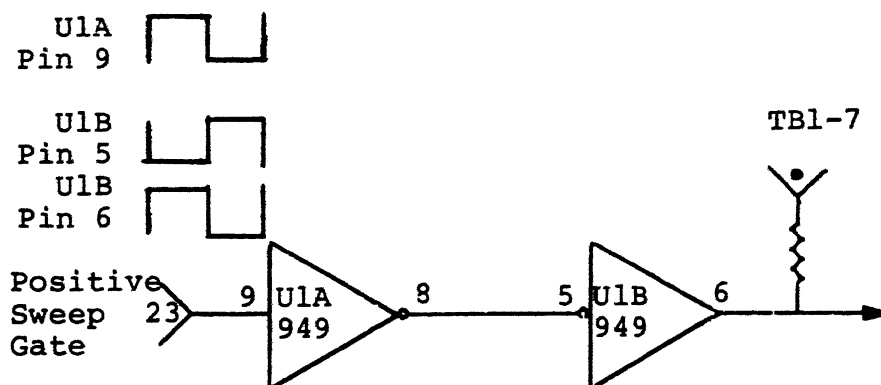

Figure 1 - DUAL INVERTER, U1.
1. The positive sweep gate, from the Sweep Generator Card, is applied to the Range Marks Generator Card to control the generation of the range marks. The leading edge of the positive sweep gate represents time zero (T_0) or the start of the sweep sawtooth. This signal is applied to the dual inverter U1 (see figure 1). The positive sweep gate is felt on U1A, pin 9, inverted at pin 8, and applies to U1B, pin 5, where